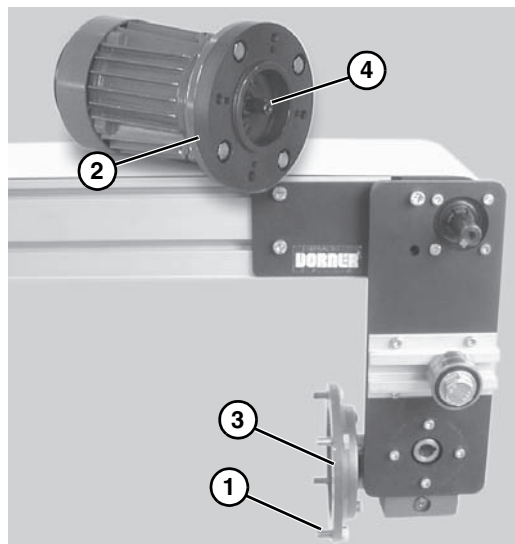

Figure 25
4. Remove four (4) screws (Figure 25, item 1). Detach motor (Figure 25, item 2) from gear reducer (Figure 25, item 3). Retain motor output shaft key (Figure 25, item 4).